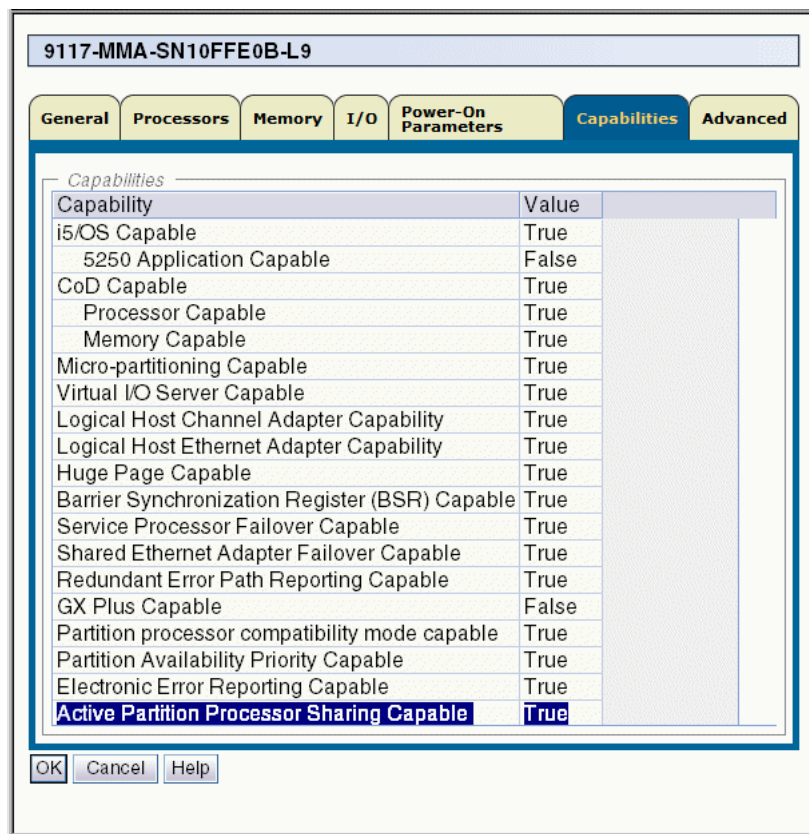

Figure 7-3 Active partition processor sharing
1. In the HMC workplace window, select **Systems Management** → **Servers** then select the name of the server. Select **Tasks** → **Properties** to open the window shown in Figure 7-3.